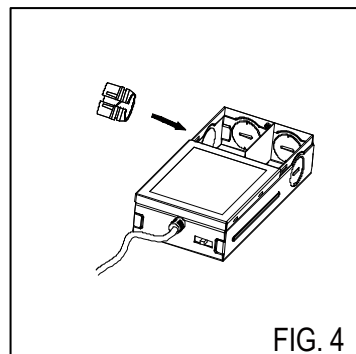

FIG. 4
4. Put wire clip into knock-off hole. (Fig.4)